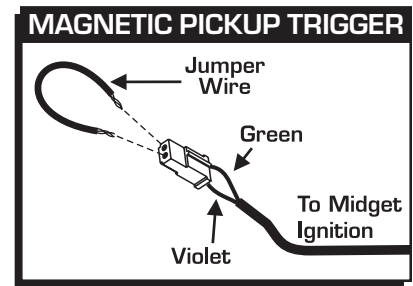

Figure 7 False Triggering Channel 1.
5. With a small jumper wire, short the Violet wire to the Green wire (Pickup Channel 1), then pull them apart (Figure 7). This will cause a spark to jump from the plug wires to ground. If spark is present, the ignition is working properly. Do the same test using the Light Blue and Light Green trigger wires (Channel 2). If there is no spark proceed to step 6: